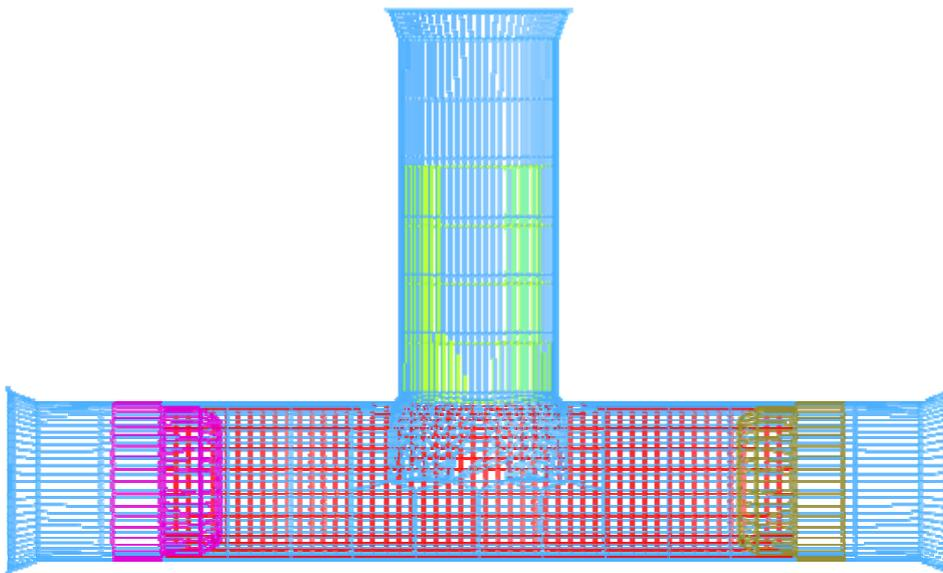

Figure 3.30 The relative position of tools and tube after positioning
- Click  and  icon on the **Icon bar** to display the relative position of tools and tube, as shown in Figure 3.30.